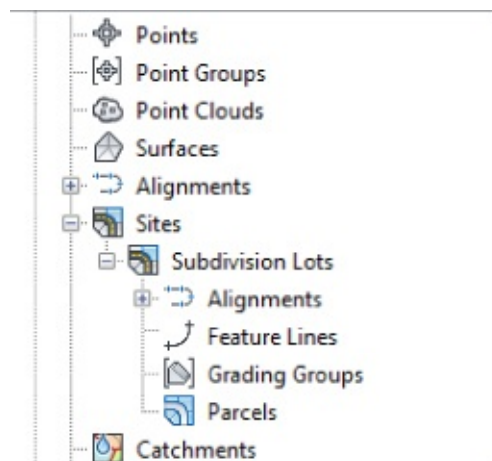

Figure 5.9 Your new site is listed in Prospector.
7. Expand the Sites collection on the Prospector tab of Toolspace, and note that your Subdivision Lots site appears on the list, as shown in Figure 5.9. You can repeat the process for all the sites you anticipate needing over the course of the project.